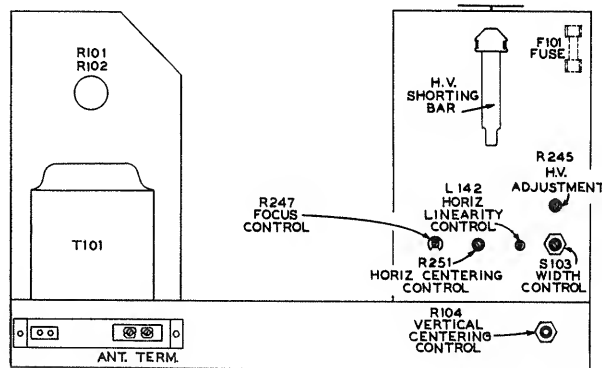

Figure 2—Rear Chassis Adjustments
**CENTERING ADJUSTMENT.**— Centering is accomplished by adjustment of the two electrical centering controls located on the rear of the chassis as shown in figure 2.
**WIDTH, DRIVE AND HORIZONTAL LINEARITY ADJUSTMENTS.**— Adjust the Width Switch S103 on the rear of the HV compartment, as shown in figure 2, to overscan the masking area by approximately three-quarters inch at each side.